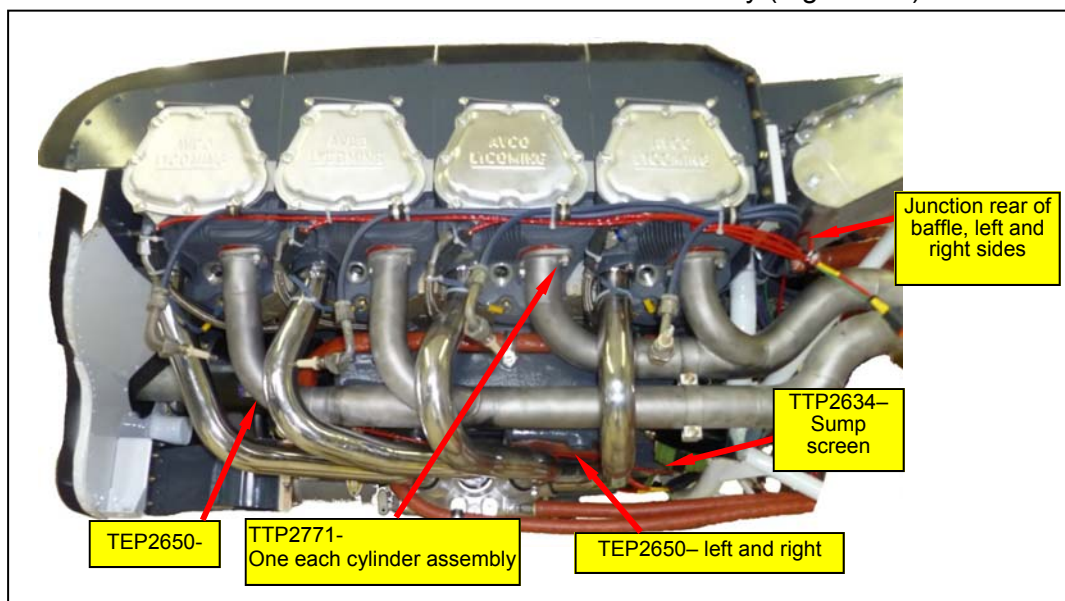
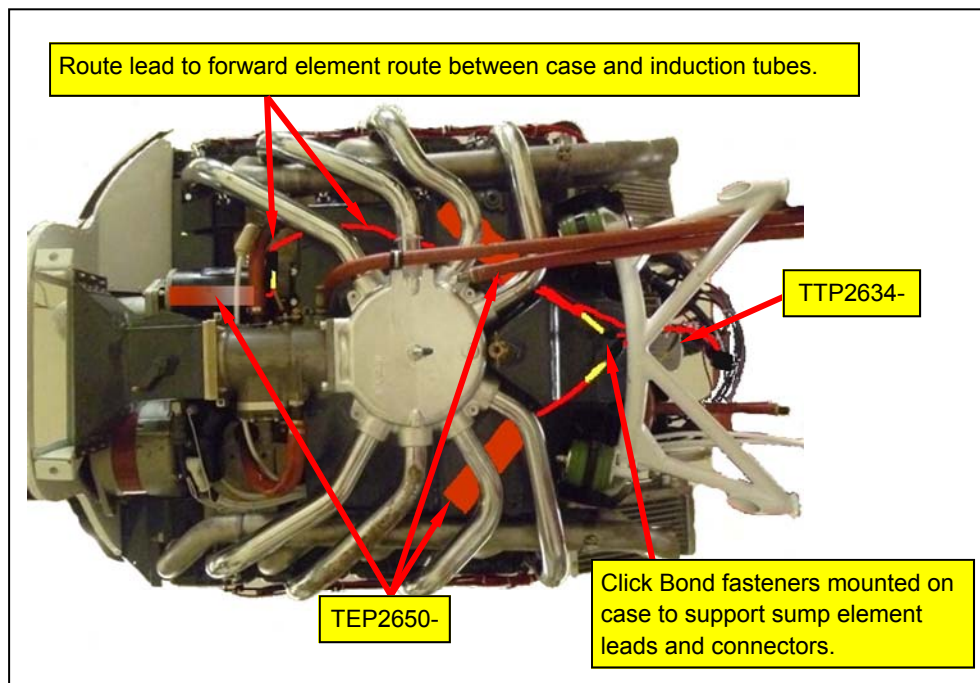

Figure 4-1 Engine left side view.
Figure 4-2 Engine bottom view.
P/N	Element, location and orientation (Figures 4-1 thru 4-4)
TTP2771- TTP2634-	Threaded heat element, one per cylinder assembly (Figures 4-1, 4-3, & 4-4). Sump screen heat element, replaces OEM screen bolt. Drain oil and install with new AN900-16 crush washer, torque, safety-wire (Figure 4-2 & 4-6), and renew oil as per OEM procedures.
TEP2650-	Pad heat element, install on lower forward area of case above starter, lead aft. Secure cabling to upper surface of induction tubes (Figure 4-2). The installation of this element is best preformed with the starter removed.
TEP2650-	Pad heat element, install one each on the bottom of left and right sumps (Figure 4-2), leads aft to meet with sump screen cabling.
4.4.3. Identify mounting location for the cable junctions which allow junction cable leads to reach elements and corresponding items as called out. A suggested location is on or near the rear of the engine in a manner that allows cabling to reach and/or follow ignition leads to each of the cylinder elements (Figures 4-1, 4-2, and 4-6).
- a. Locate left bank junction A, forward of the left oil cooler. Secure to ignition leads using cable ties or mount using cushioned clamp(s) (Figures 4-1 and 4-6). Attach ground to engine case. Junction A is the main power junction with ground wire. This junction connects to the left cylinder elements and Junction B.
- * Install Click Bond fasteners (cable mount) on lower case/sump in appropriate location for securing sump element leads and connectors (Figures 4-2 and 4-6).